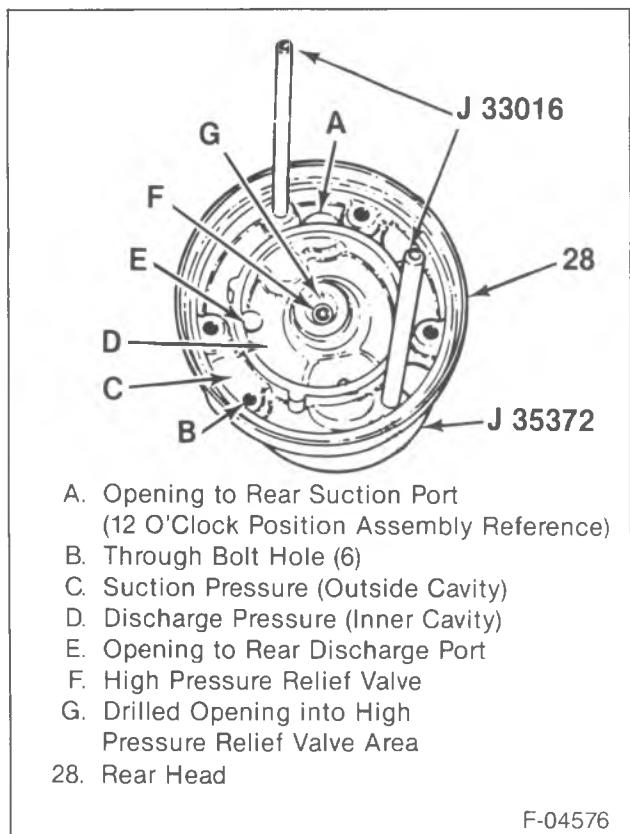

Figure 27—Positioning the J 33016 Guide Pins
- Place the rear head on J 35372 with the control valve (5) facing the technician.
1. Cylinder Alignment Rods J 33016 in the mounting hole facing the technician and at the upper left position (figure 27).